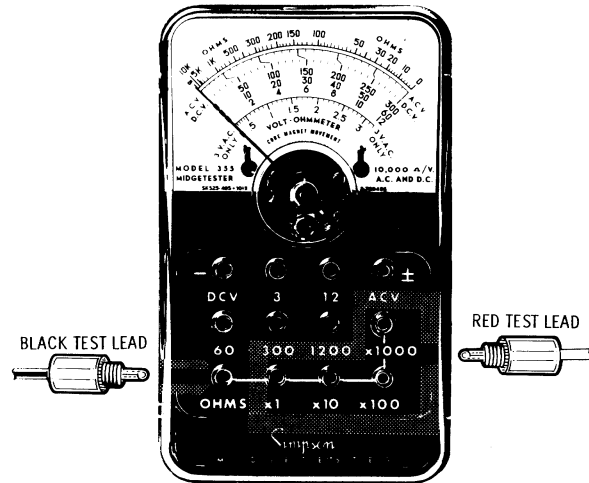

Figure 3-3. Resistance Measurement
- Screw the red test lead into the x1, x10, x100 or x1000 jack as selected for the range required (see Figure 3-3).